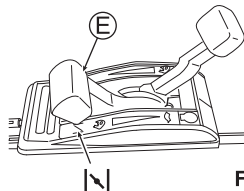

Fig. 11
- 3 Set Throttle lever (E) to Choking "I\|". (See Fig. 11)